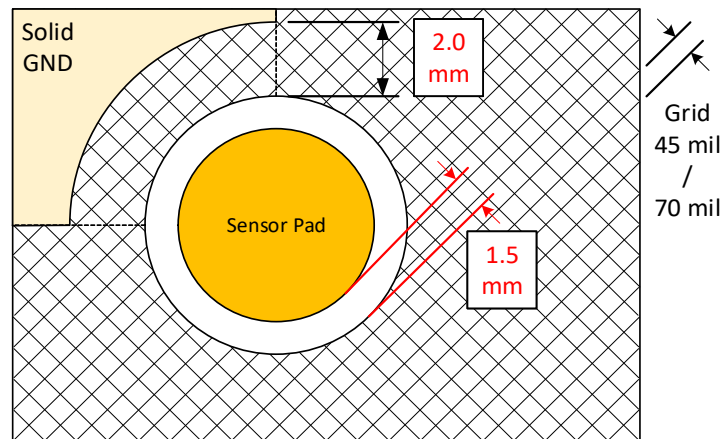

Figure 10-5 GND grid
- Top layer (sensor in the same layer): 25% (7 mil line width, 45 mil spacing), see Figure 10-5;